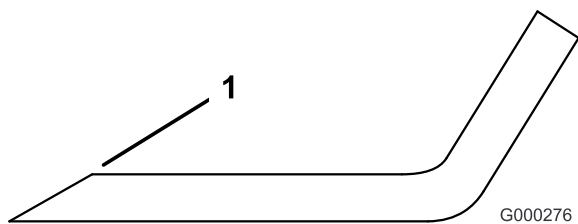

Figure 81
1. Use a file to sharpen the cutting edge at both ends of the blade (Figure 81). Maintain the original angle. The blade retains its balance if the same amount of material is removed from both cutting edges.